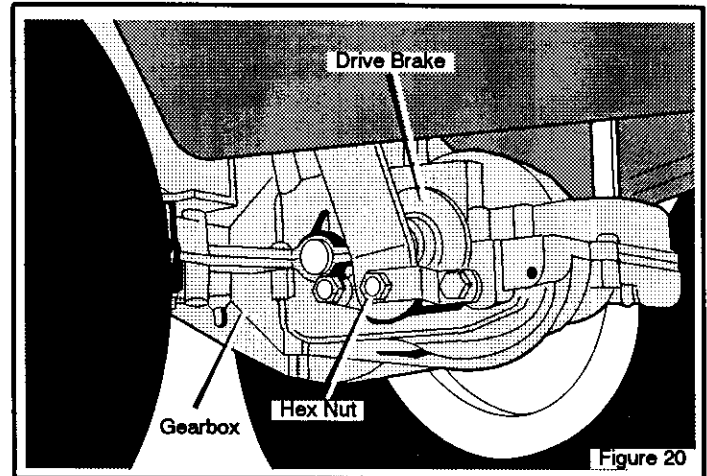

Figure 20
1. The location of the **drive brake** is on the right side of the **gearbox** (Figure 20).